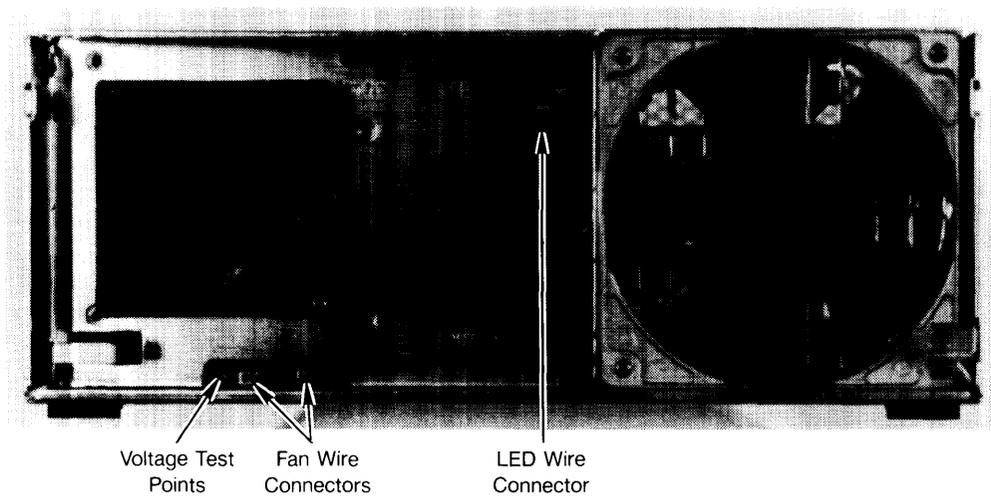

Figure 2-10. Fan Wire Connectors
1. Using needlenose pliers, disconnect the fan wire connector from its pins on the motherboard. Refer to Figure 2-10.